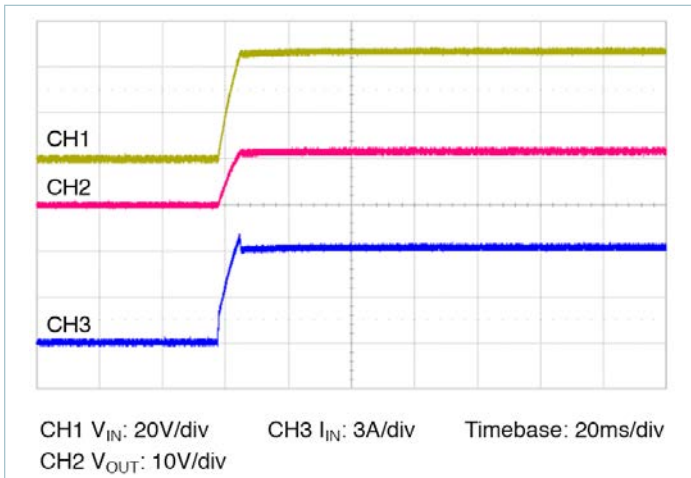

Figure 13 — Start up from application of V_{IN} ; VC pre-applied $C_{OUT} = 375\mu\text{F}$
- **Normal operation (VC applied prior to V_{IN}):** In this case the controller is active prior to ramping the input. When the input voltage is applied, the VTM module output voltage will track the input (See Figure 13). The inrush current is determined by the input voltage rate of rise and output capacitance. If the VC voltage is removed prior to the input reaching 26V, the VTM may shut down.